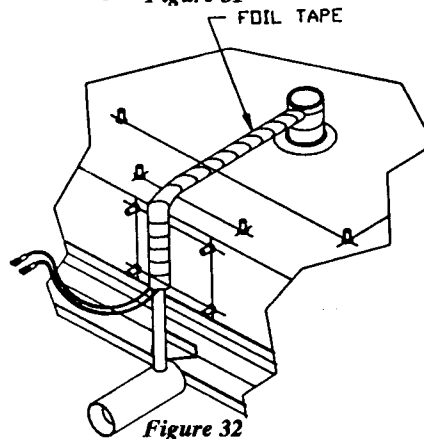

Figure 32
7. Position the heater wires at front of tube and wrap foil tape around heater, tube, and suction fitting overlapping the tape (see Figure 32).